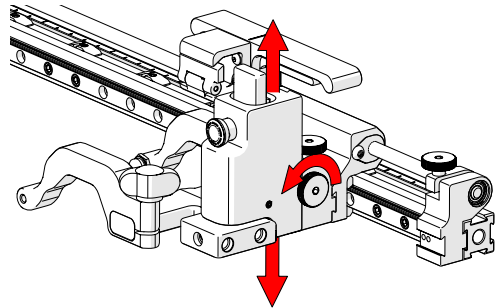

Fig. 47 - Vertical adjustment
2. The vertical adjustment knob (Fig. 47) allows height adjustment of the heavy duty vertical probe holder. This adjustment also controls the probe holder's spring tension.